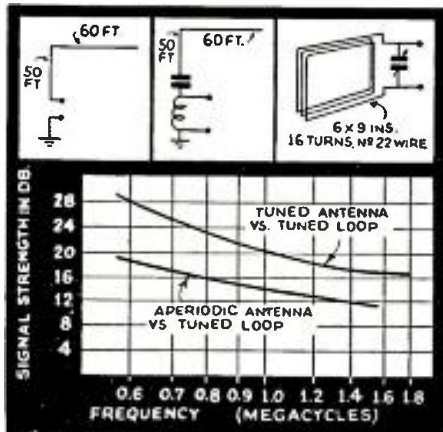
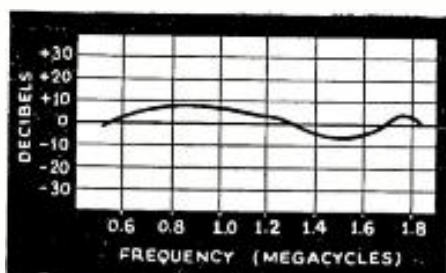

Fig. 1. Signal strength of tuned and untuned antennas compared with a tuned loop.
Fig. 2. Comparison of relative signal strength received from a noise-reducing system vs. conventional antenna of same dimensions.
B.—The only other circuit in F.M. receivers which is particularly annoying to the Servicemen at present is the discriminator circuit. However, if we analyze this portion of the receiver very carefully it will soon be seen that this is exactly the same as similar circuits which were used for automatic frequency control in A.M. receivers. See Fig. 1. The adjustment of these circuits is exactly the same as shown.
The graph of Fig. 1 shows a typical instance of relative signal levels from a *tuned loop* vs. *ordinary outdoor antenna* of the tuned and untuned types. Figure 2 shows the relative signal levels from a *noise-reducing outdoor antenna* (an outdoor antenna, equipped with noise-reducing units) vs. an *ordinary outdoor antenna* (that is, the same antenna without the noise-reducing units and with an open download).
From these graphs the superiority of the antenna over the loop for signal strength alone is established in these particular examples by inspection of Fig. 1. The superiority of the signal strength of the antenna equipped with noise-reducing units and transmission line over the conventional type, of the same dimensions, is apparent from Fig. 2.